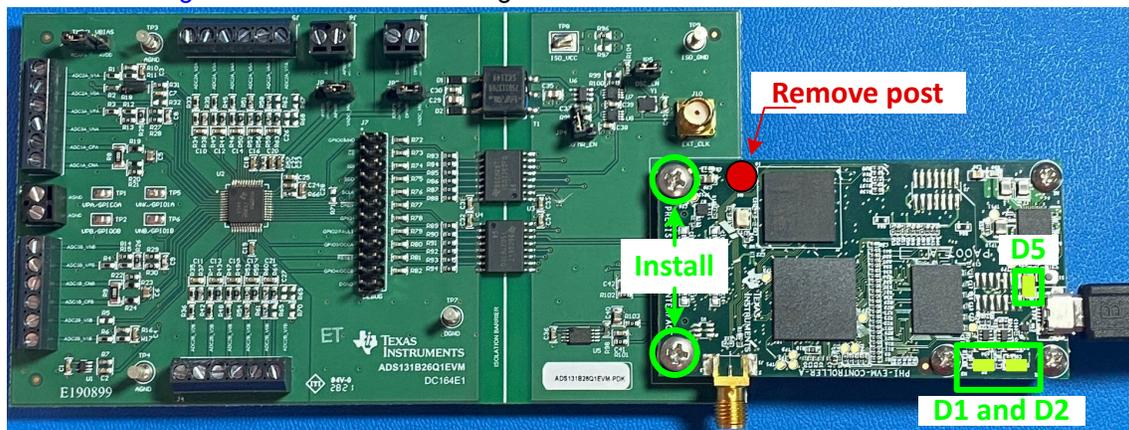

Figure 1-1. ADS131B26Q1EVM-PDK PHI Connection and LED Indicators
2. Connect the ADS131B26Q1EVM-PDK to the PHI controller. Install the two screws as indicated in Figure 1-1.
- b. LEDs D1 and D2 start blinking at different rates to indicate that the PHI is booted up and communicating with the PC. Figure 1-1 shows the resulting LED indicators.